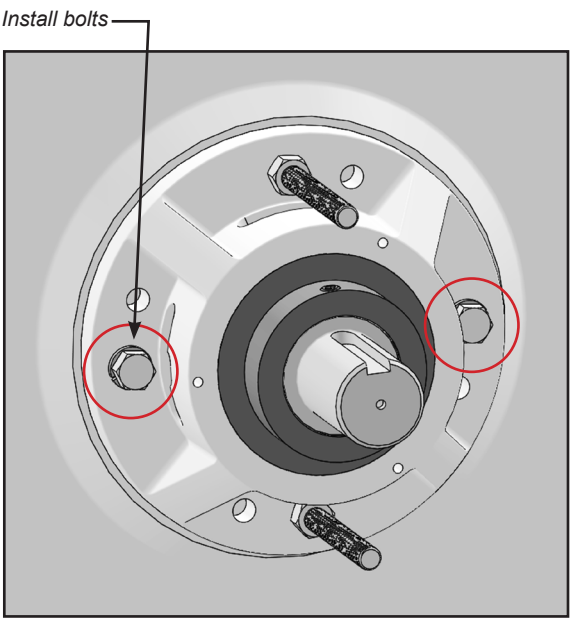

FIGURE 31
- 26. Once the cartridge is close to the endplate install bolts on the two available holes, drawing the cartridge onto the endplate (Figure 31). Alternately tightening 1/4 turn at a time.